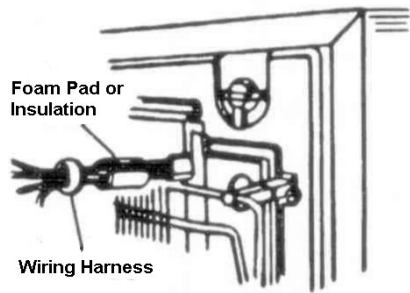

Figure 9 Condenser Back Coil
8. This step not required on smooth back models. Wrap foam pad (previously removed from opening), around wiring (see Figure 9 & 10), to protect from abrasion. If insulation was damaged, wrap with electrical tape to protect the wiring.